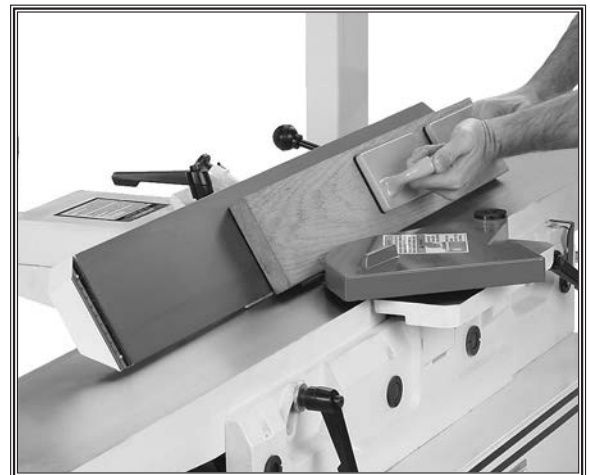

Figure 35. Typical bevel cutting operation.
7. With a push block in your leading hand, press the workpiece against the table and fence with firm pressure, and feed the workpiece over the cutterhead, as in **Figure 35**.